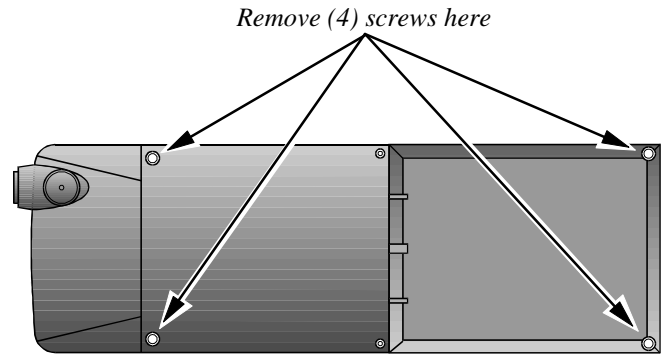

Figure 20 - Rear View Of Radio With Battery Removed
4. From the back of the radio, remove the (4) screws using a No. 6 TORX® driver. See Figure 20.